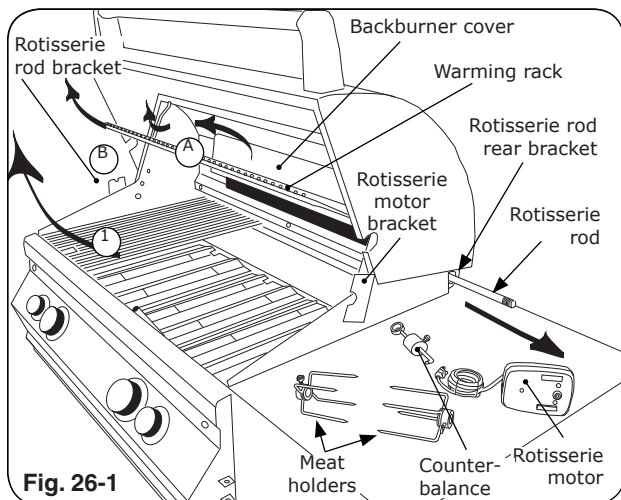
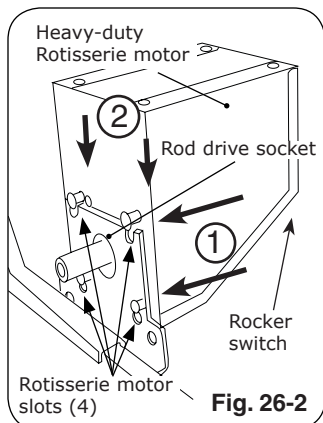
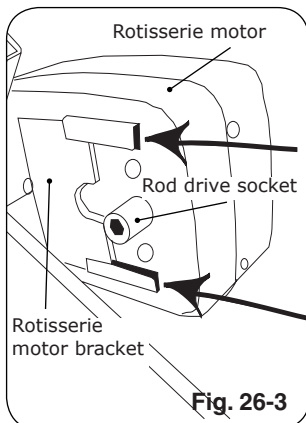

Fig. 26-1
Fig. 26-2
Fig. 26-3
2. Slide rotisserie motor fully onto motor bracket (right side, Fig. 26-1, Fig. 26-2 and Fig. 26-3).
3. Remove rotisserie rod from rear bracket (Fig. 26-1).